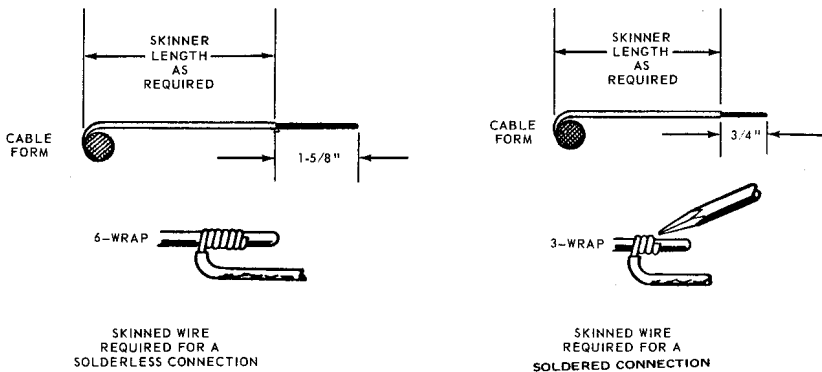

Figure 6. Skinned Lengths Required for Solderless and Soldered Wire Wraps.
- 5.01 *Solderless Wrapped Connections:* The minimum number of turns around the terminal shall be six complete turns for 24 gauge wire, and five complete turns for 22 gauge wire. A skinned length of 1 5/8 inches should be sufficient for 22 and 24 gauge wire to permit the required number of turns around the terminal. More than the required number of turns is permissible (see Figure 6). In order to ascertain that satisfactory connections are being obtained, check them periodically.
- 5.02 *Soldered Wrapped Connections:* A minimum of three complete turns around the terminal shall be made for soldered wrapped connections. A skinned length of 3/4 inch should be sufficient to permit the required number of turns around the terminal. More than the required number of turns is permissible (see Figure 6).